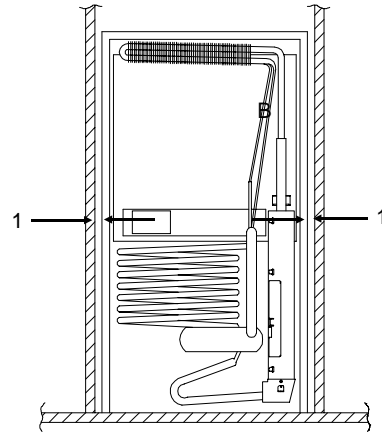

Figure 4
Side Wall Clearance - Figure 4
1. Figure 4 illustrates the requirement to minimize the clearance at the sides of the refrigerator. The clearance is not to exceed 1/2 inch. Side clearances in excess of 1/2 inch must be either filled with Fiberglas batting or blocked with paneling, etc.